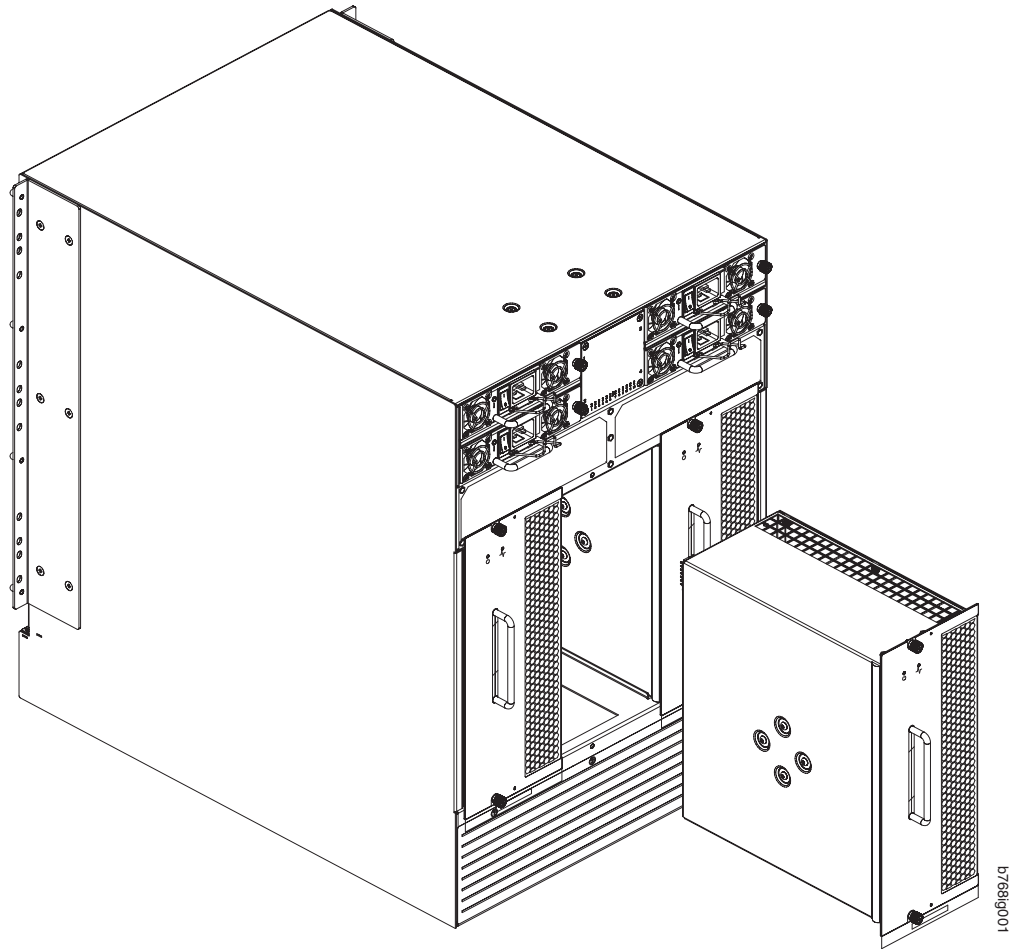

Figure 32. Blower assembly LEDs and other parts
2. Use the screwdriver to loosen the captive screws at the top and bottom of blower assembly (see Figure 32 on page 77).